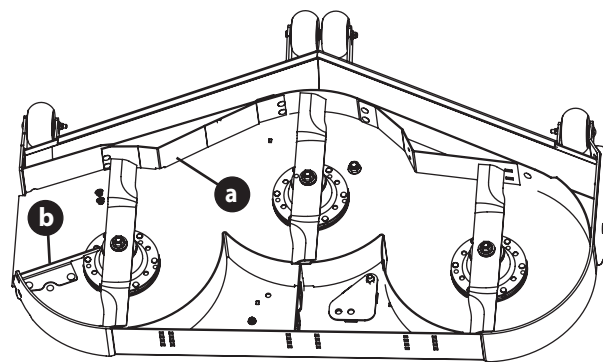

Fig. 17
***Inner Baffle (48, 54 and 60 inch Decks Only):** The inner baffle (a) regulates grass discharge. Remove the inner baffle for high-volume grass and install the inner baffle for precision cutting (Fig. 17).
Discharge Baffle: The discharge baffle (b) enhances the grass discharge pattern. The discharge baffle reduces clumping and should be removed for mulching (Fig. 17).